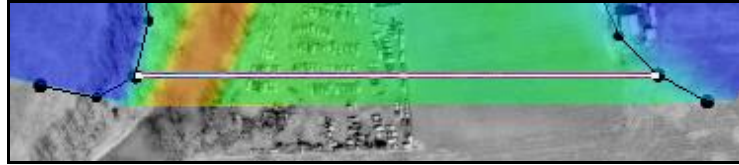

Figure 5 Downstream boundary arc
11. Using the **Create Feature Arc**  tool, create the downstream boundary arc as shown in Figure 5.